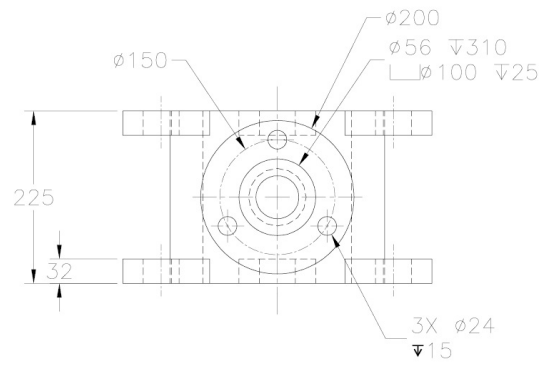
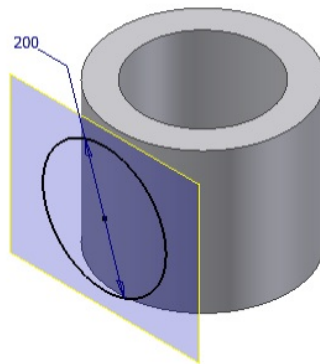
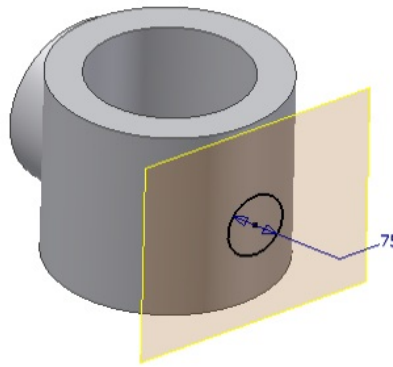

Figure 7-75 Views and dimensions for Tutorial 3
Figure 7-77 Sketch for the first join feature
Figure 7-79 Sketch of the second join feature
In this tutorial, you will create the model of the body of the Butterfly Valve assembly shown in Figure 7-75. Its views and dimensions are shown in the same figure. After creating the model, modify the location of the curved feature on the top face by changing the dimension 175mm to 200mm. The dimensions of the remaining five instances should also change automatically.
1. Open a new metric part file and then create the base feature on the XY plane. Take the origin as the center of the two circles in the sketch of the base feature. For the dimensions of circles, refer to Figure 7-75.
2. Define a new sketch plane on **Work Plane1** and draw the sketch of the first join feature using the origin of the new sketch plane as the center, as shown in Figure 7-77. Refer to Figure 7-75 for the placement and dimensions of the first join feature.
4. Similarly, define a new work plane at an offset of 325 mm from **Work Plane1**. Next, create the sketch of the second join feature, as shown in Figure 7-79. Refer to Figure 7-75 for the placement of the second join feature.
Creating the Counterbore Hole and Drilled Holes on the Front Face of the First Join Feature 1. Using the **Concentric** option, create the flat-ended counterbore hole on the front face of the first join feature. Refer to Figure 7-75 for the dimensions and placement of the hole.
hole. Refer to Figure 7-75 for the location of the hole. Invoke the **Hole** tool and create one of the drilled holes. For the dimensions of the hole, refer to Figure 7-75.
Creating the Third Join Feature on the Top Face of the Base Feature 1. Define a new sketch plane on the top face of the base feature and draw the sketch of the third join feature; refer to Figure 7-75 for dimensions. Include the circle in the sketch so that the hole is created automatically.